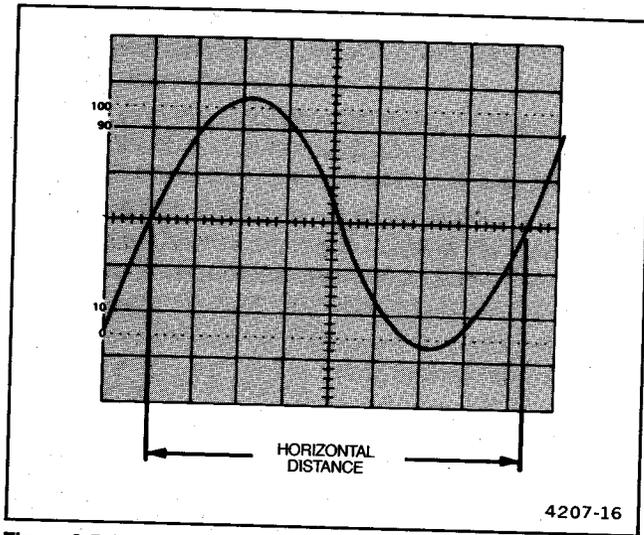

Figure 3-5. Measuring time duration.
4. Position the display to place the time-measurement points on the center horizontal graticule line (see Figure 3-5).
**EXAMPLE.** In Figure 3-5, the distance between the time measurement points is 8.3 divisions, and the SEC/DIV setting is 2 ms per division. Horizontal MODE is set to X1.
**EXAMPLE.** The signal in Figure 3-5 has a period (T) of 16.6 ms. Calculating frequency (f):